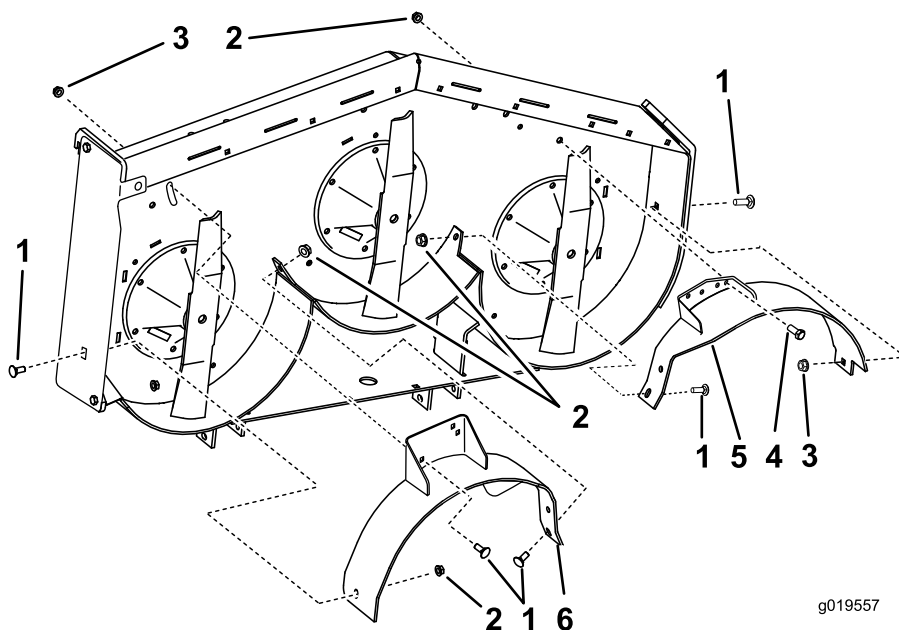
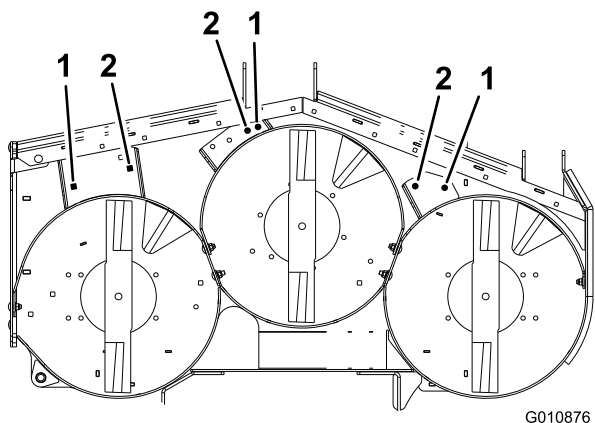
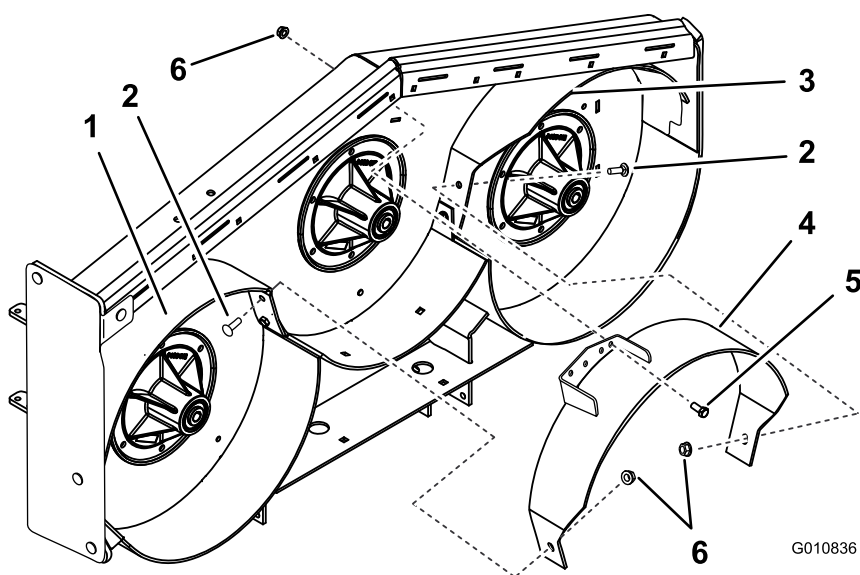

Figure 12
Figure 13
Figure 14
2. Loosely install the right baffle to the discharge plate with 1 carriage bolt (3/8 x 1 inch) and a flange nut (small flange) (3/8 inch) (Figure 12).
3. Loosely install the right baffle to the top of the mower deck with 1 carriage bolt (3/8 x 1 inch) and 1 flange nut (large flange), (3/8 inch) (Figure 12). Refer to Figure 13 for the correct holes to use and the position of the baffles.
4. Loosely install the right baffle to the mower deck with 1 carriage bolt (3/8 x 1 inch) and 1 flange nut (small flange) (3/8 inch) (Figure 12).
6. Loosely install the left baffle to the top of the mower deck with 1 bolt (3/8 x 1 inch) and 1 flange nut (small flange) (3/8 inch) (Figure 12). Refer to Figure 13 for the correct holes to use and the position of the baffles.
7. Loosely install the left baffle to the mower deck with 1 carriage bolt (3/8 x 1 inch) and 1 flange nut (small flange) (3/8 inch) (Figure 12).
8. Loosely install the left baffle to the side of the mower deck with 1 carriage bolt (3/8 x 1 inch) and 1 flange nut (small flange) (3/8 inch) (Figure 12).
10. Loosely install the center baffle to the left baffle with 1 carriage bolt (3/8 x 1 inch) and 1 flange nut (small flange) (3/8 inch) (Figure 14). Refer to Figure 13 for the correct holes to use and the position of the baffles.
11. Loosely install the center baffle to the right baffle with 1 carriage bolt (3/8 x 1 inch) and 1 flange nut (small flange) (3/8 inch) (Figure 14).
12. Loosely install the center baffle to the top of the mower deck with 1 bolt (3/8 x 1 inch) and 1 flange nut (small flange) (3/8 inch) (Figure 14).